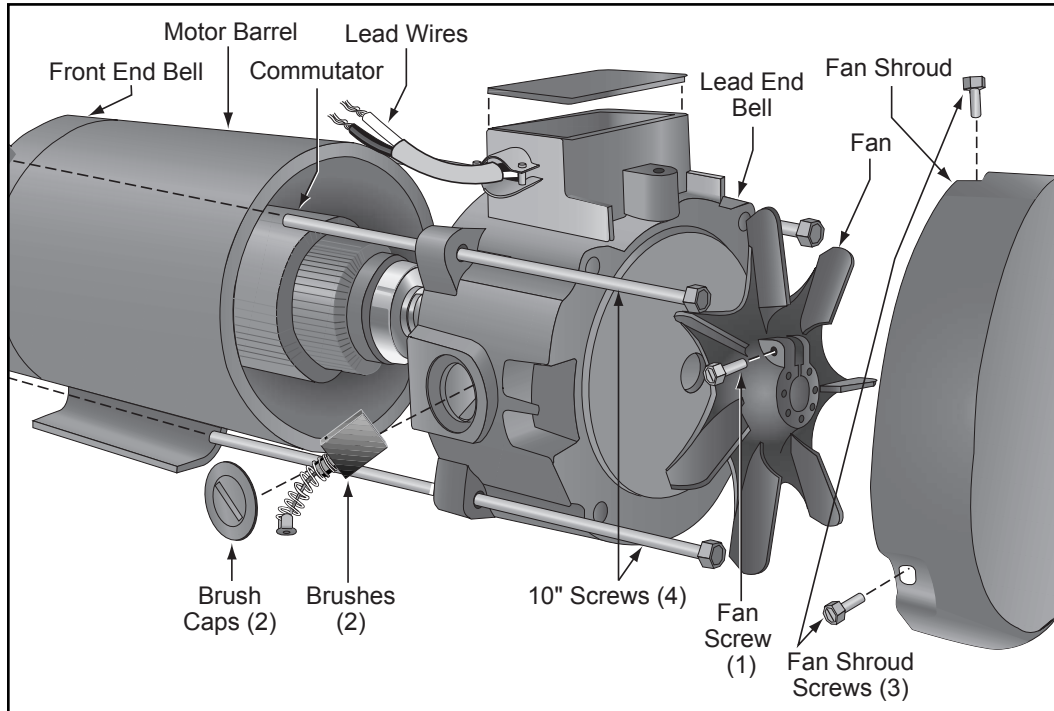

Figure 11
- C.** Remove the fan shroud and the three screws that hold it in place. See Figure 11.
- D.** Remove the fan and the screw that holds it in place. See Figure 11.
- E.** Remove the lead end bell and the four 10" (25.4 cm) screws that hold it in place. See Figure 11.
- F.** Remove the motor brush caps with a large flat screwdriver. See Figure 11. See *Motor Brushes* in this chapter for instructions to check motor brush wear and then return to step 7.
- A.** Attach the lead end bell with the four 10" (25.4 cm) screws that hold it in place. See Figure 11.
- B.** Attach the fan with the screw that holds it in place. See Figure 11.
- C.** Attach the fan shroud and the three screws that hold it in place. See Figure 11.
- E. Place each brush in its brush holder and carefully push the spring in while screwing on the brush cap. Secure the brush caps over the brushes using a large flat screwdriver. See Figure 11.